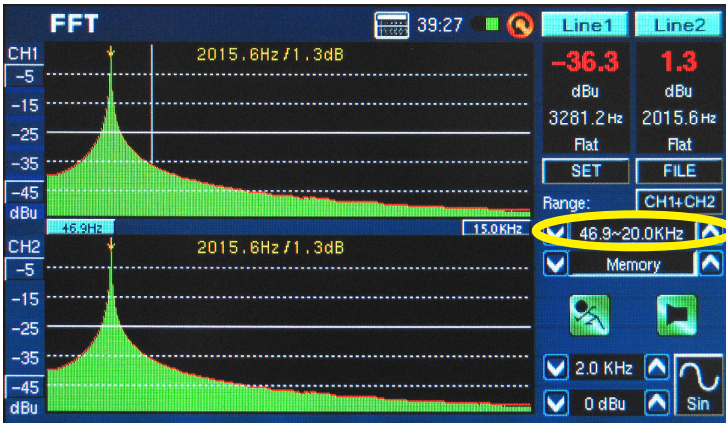

figure 64
10. Frequency Range (figure 64) – The frequency range is selectable on the FFT function only. There are 13 different frequency ranges selectable to users. This allows the FFT function to measure frequencies anywhere between 0.2 Hz to 20 kHz.